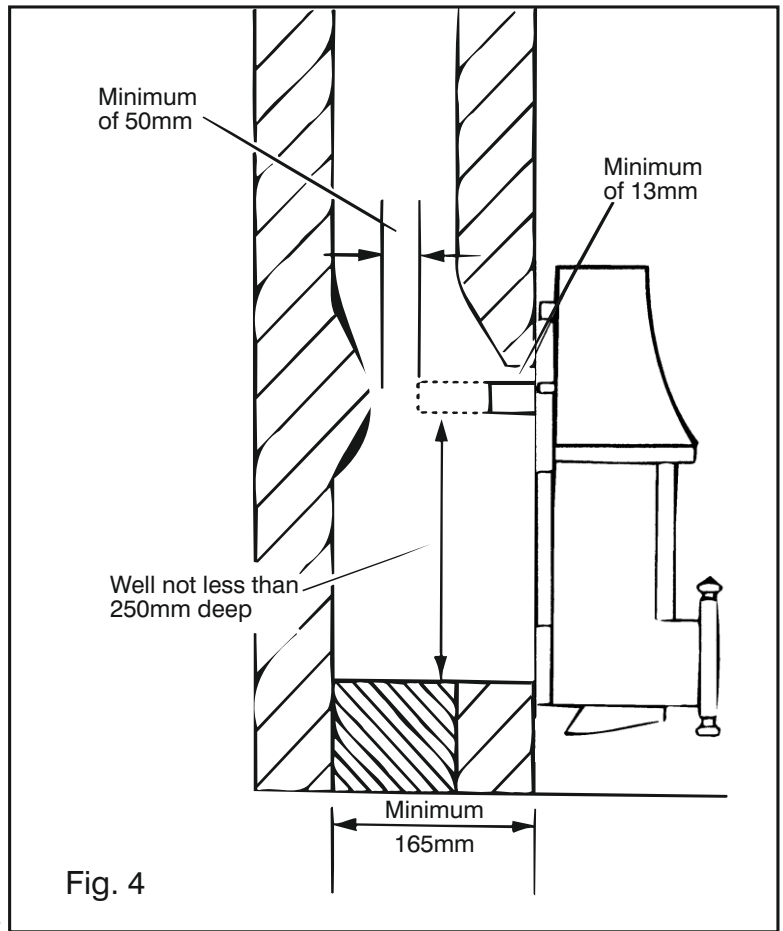

Fig. 4
2.2.1 Fireplace Dimensions (Fig. 4)
- (d) The top of the spigot must be at least 13mm (1/2in) below the top edge of the fireplace opening. (See Fig. 4).